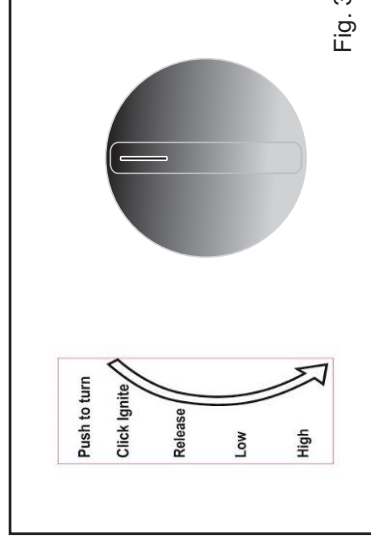

Fig. 3
- This appliance is fitted with an Oxygen Depletion Sensor for your safety (See Fig 3). Its function is to shut down the gas supply to the appliance in the event of a burner flame out or other malfunction. **Do not interfere with or remove or modify this device.**
- The appliance is fitted with a Piezo Ignitor built into the control valve which automatically ignites the gas grate when the control valve knob is turned to the ignite position and does not require the use of a lighter or matches to light it. (see Figs. 3 & 4)